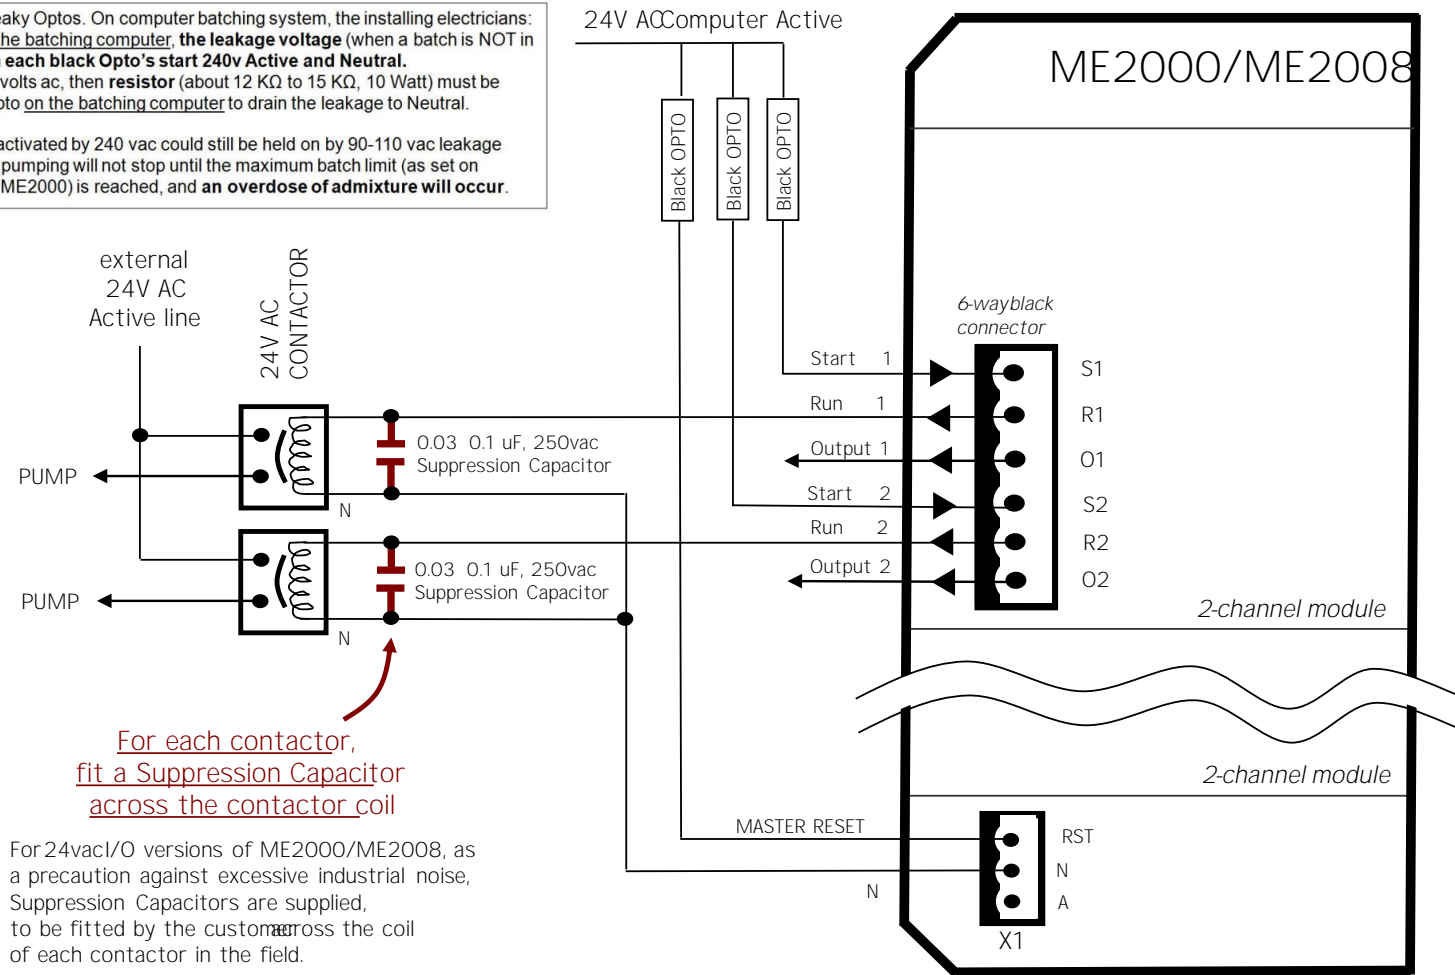

Figure 5. Fitting Suppression Capacitors to prevent electrical noise, and Resistors to prevent voltage leakage.
- < Fitting a 0.03 to 0.1µF 250vac capacitor on the pump contactor coil (between pump drive of ME2008 and Neutral), helps eliminate any voltage spikes (see Figure 5 on Page 12).
Computer starts have Black Optos which are usually solid state. A higher than normal residual leakage voltage is maintained e.g. 90 vac (so installers/maintainers must measure, on the batching computer voltage is sometimes enough to keep ON relays that drive contactors or solenoid coils. If this occurs, fit a 12kΩ 5W resistor between the Start Drive and Neutral connections (see Figure 5 on Page 12).
- 2 Sometimes spiking contactor coils in close proximity to ME2008 can cause interference. Fitting 0.01 to 0.03µF 250 vac capacitors on the pump contactor coils (between Neutral and the R1 pin of the DCM black X1 plug) helps eliminate spikes (see Figure 5 on Page 12).